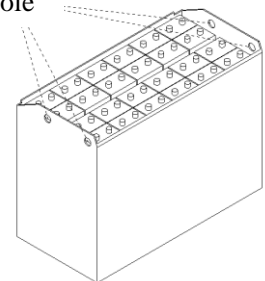

Figure 2-25
(4) Figure 2-25 shows how to lift a battery box.